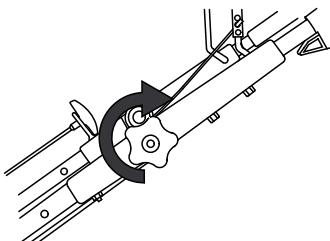

Figure 20
3. Tighten the upper handle knob as tight as you can (Figure 20).